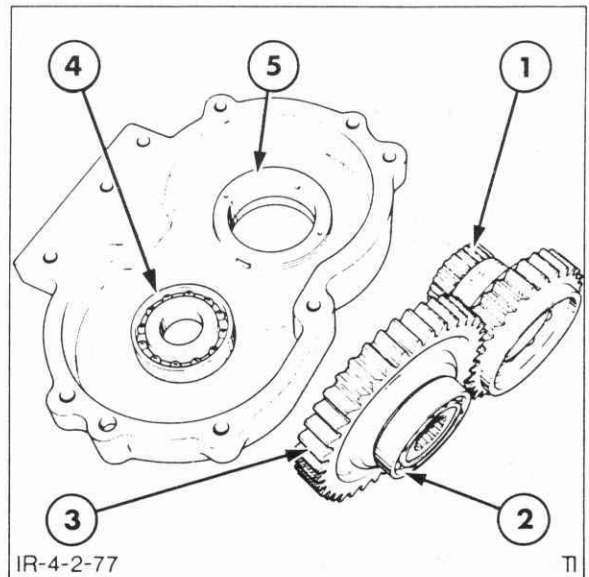

Figure 4-172
2. Strike the front cover plate with a suitable soft faced mallet to release the hydraulic pump driven gear from the housing, Figure 4-172.